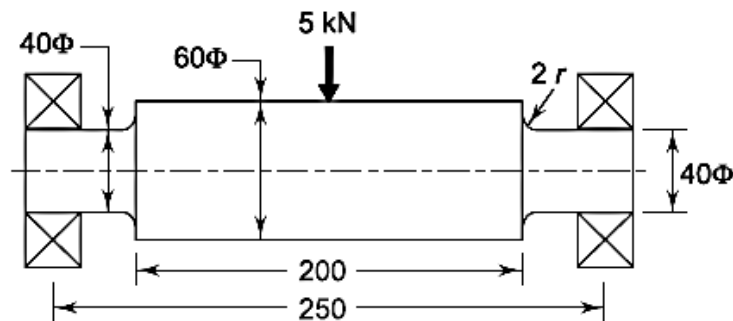

Figure 6.3
3. A shaft carrying a load of 5 kN midway between two bearings is shown in Fig. 6.3. Determine the maximum bending stress at the fillet section. Assume the shaft material to be brittle.